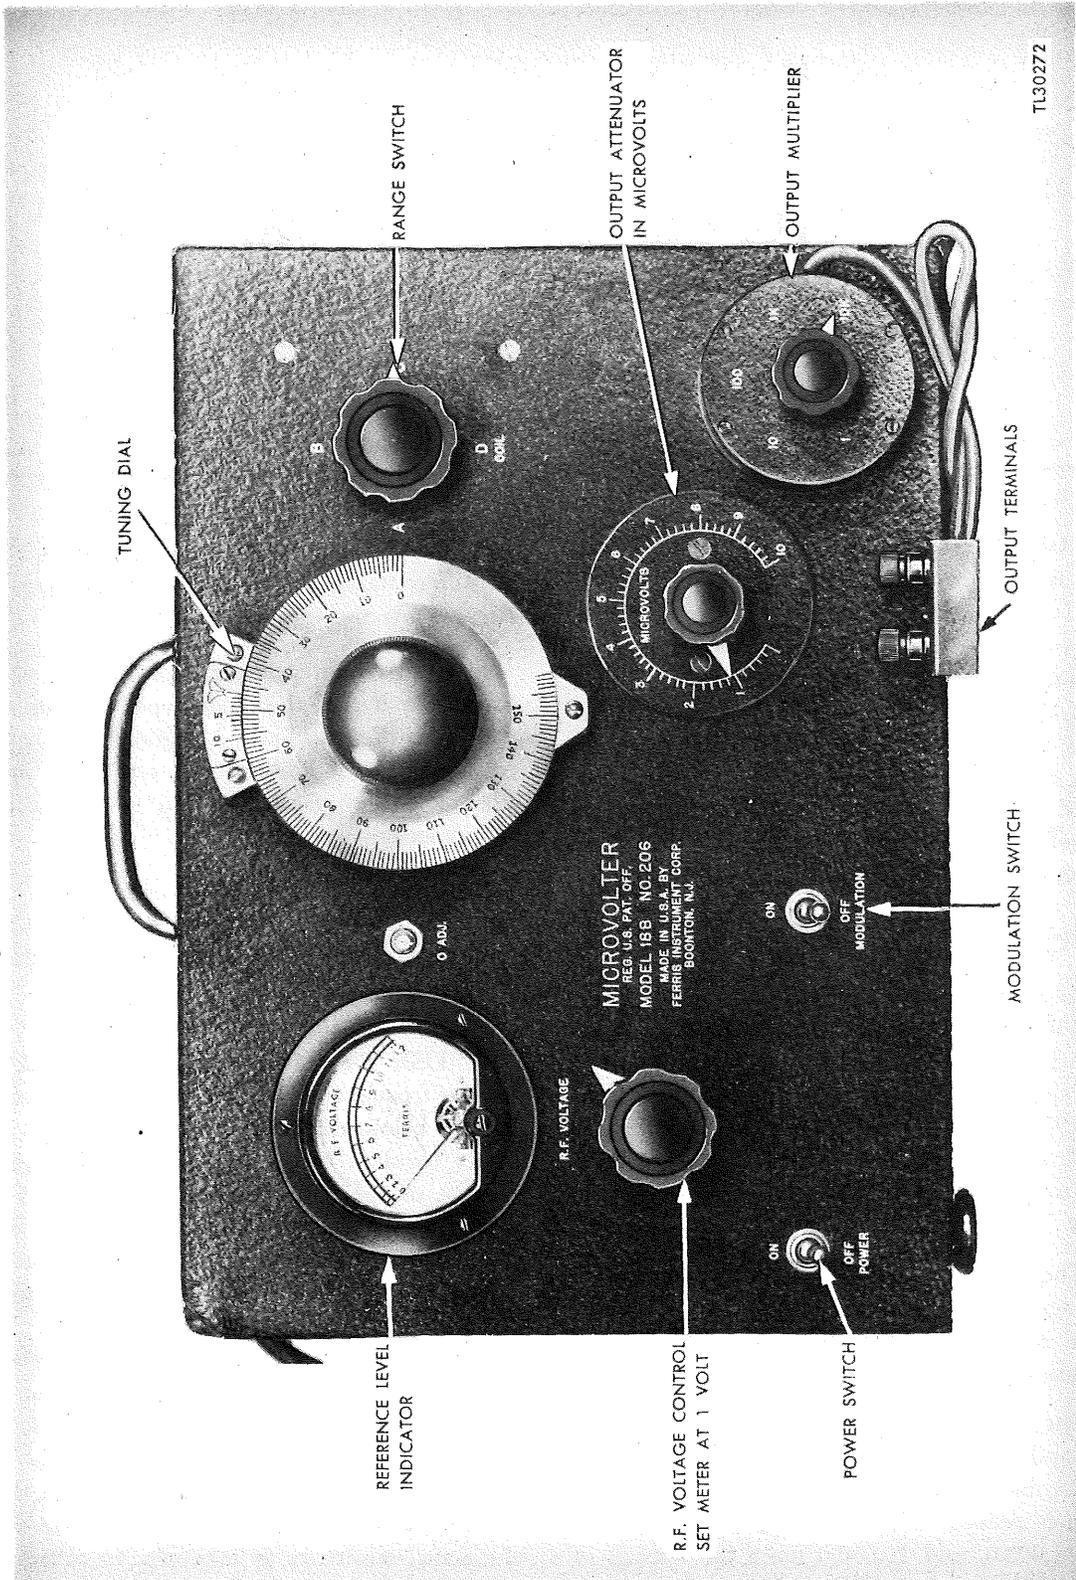

Figure 35. Signal generator, Ferris microvolter model 18-B, panel view.
132. **GENERAL.** The Ferris microvolter, model 18-B, is another type signal generator provided with Test Equipment RC-68-(*). This instrument is a 4-tube, 4-band, ultra-high-frequency signal generator, operative over the frequency band of 18 megacycles to 155 megacycles. The individual frequency bands are: 18 mc to 34 mc, 32 mc to 60 mc, 55 mc to 105 mc, and 100 mc to 155 mc. These lettered band designations appear upon the front panel of the instrument (fig. 35). The schematic diagram of the instrument is illustrated in figure 37.
f. Tuning is done by means of a variable capacitor with a vernier adjustment (fig. 35). Calibration of the device is indicated upon calibration curves supplied with the instrument.
h. Thus, a setting of 5.5 on the microvolt dial (fig. 35), and a setting of 1K on the attenuator knob, represent a signal output of 5.5 microvolts x 1,000 or 5,500 microvolts, assuming the r-f voltage meter to read 1.0 volt. If the MICROVOLTS dial is set at 8.0 and the attenuator is set at 1.0, the output is 8.0 x 1.0 or 8.0 microvolts, etc. If for any reason (such as aging of the r-f oscillator tube) the r-f reference meter reading cannot be brought up to the 1.0-volt mark, reduce the reading to 0.5 volts and multiply by 0.5, the product of microvolt dial times attenuator settings.